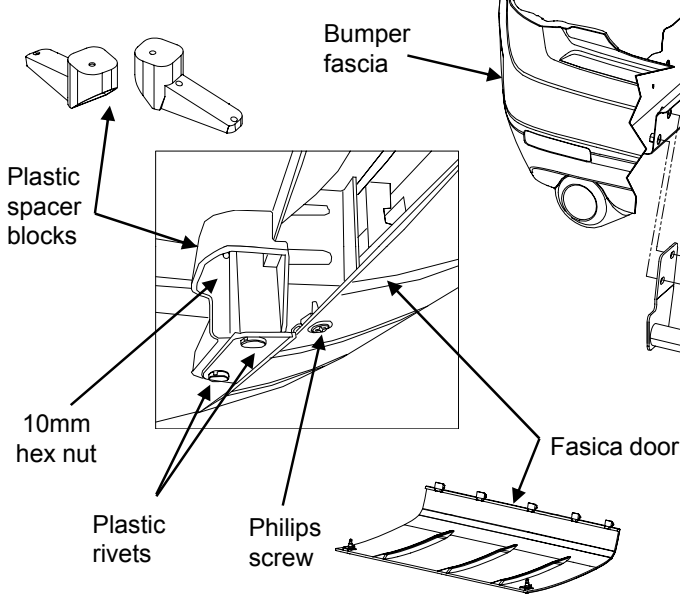

Figure 2
①	Qty. (6)	Hex Bolt M12X1.75X40 CL8.8
②	Qty. (6)	Conical washer 1/2"
1. Remove fascia door from bumper fascia using a philips tip screwdriver (2 screws). Remove the (4) plastic rivets that fasten the fascia tabs to the plastic spacer block. Note: Remove the center of the rivet with a screwdriver by first pulling out center post of rivet. Rivet can then be pushed out by hand. Rivets to be reinstalled. Return plastic fascia covering and screws to vehicle owner. See Figure 2.